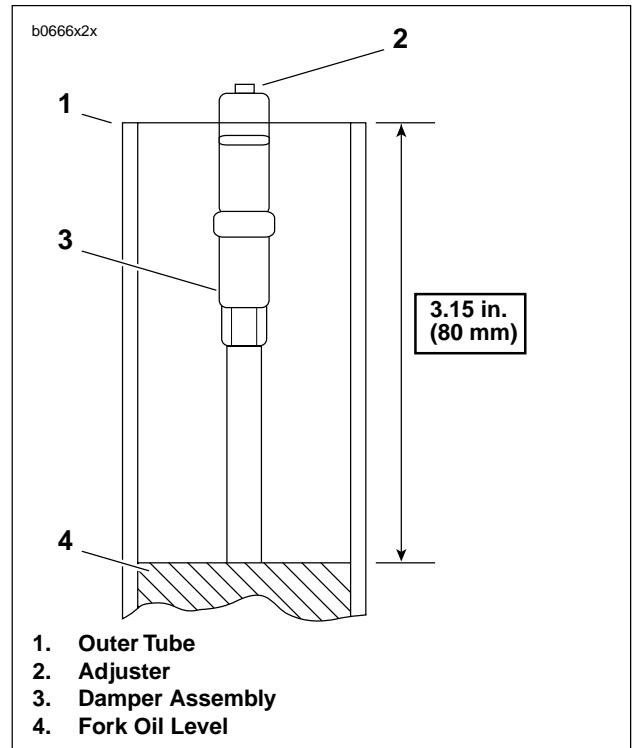

Figure 1-36. Correct Fork Oil Level
3. See Figure 1-36. Pump damper assembly (3) and leg slowly about 10 times, using 6.0 in. (150 mm) strokes.